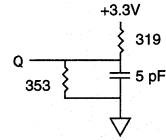

Fig. 2 OUTPUT LOAD EQUIVALENT
- ^tHZCE and ^tHZWE are specified with CL = 5pF as in Fig. 2. Transition is measured ±200mV from steady state voltage.